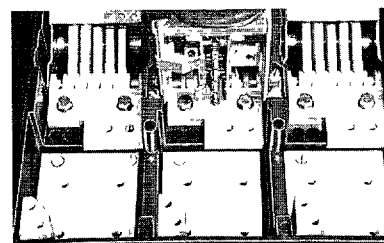

Figure 1. Breaker frame with Trip Unit removed
3. Breaker frame is now ready for installation of kit. (See Figure 1).